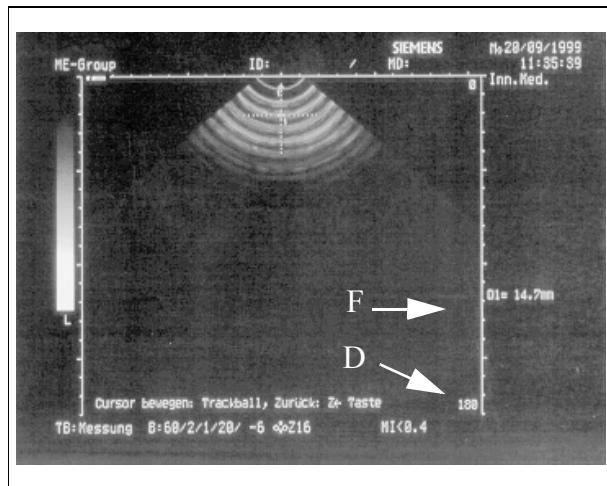

Fig. 17
- Set the value (D/Fig. 17,18) to 180 using the knob
- Use the track ball to move to the center of the crosshairs. In the display (F/Fig. 17), a value of - see Table - must appear that is relative to the probe.